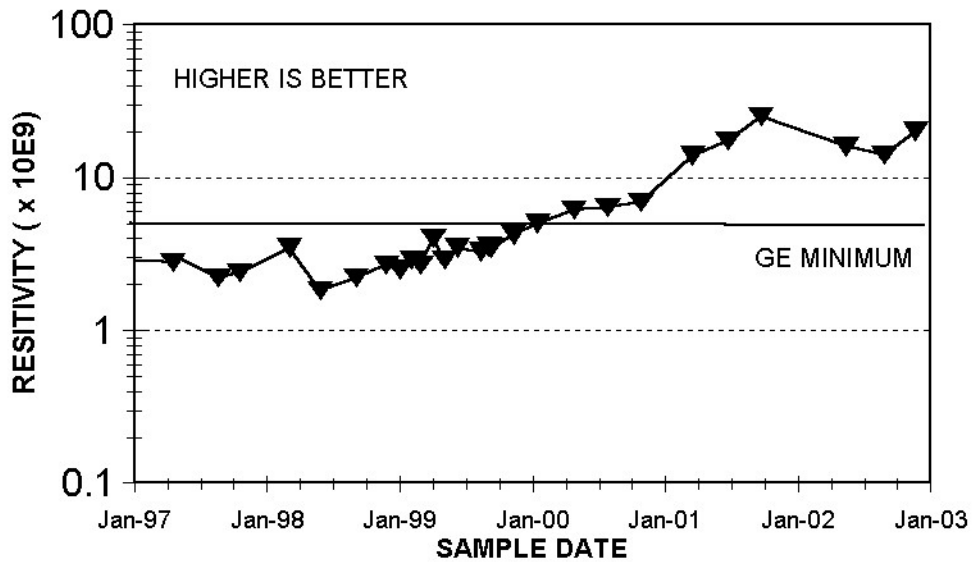

Figure 4: Resistivity
**Resistivity:** Now well above the GE minimum of 5 Gohm.cm, which is good, plus it is still trending higher which is even better. See Figure 4.